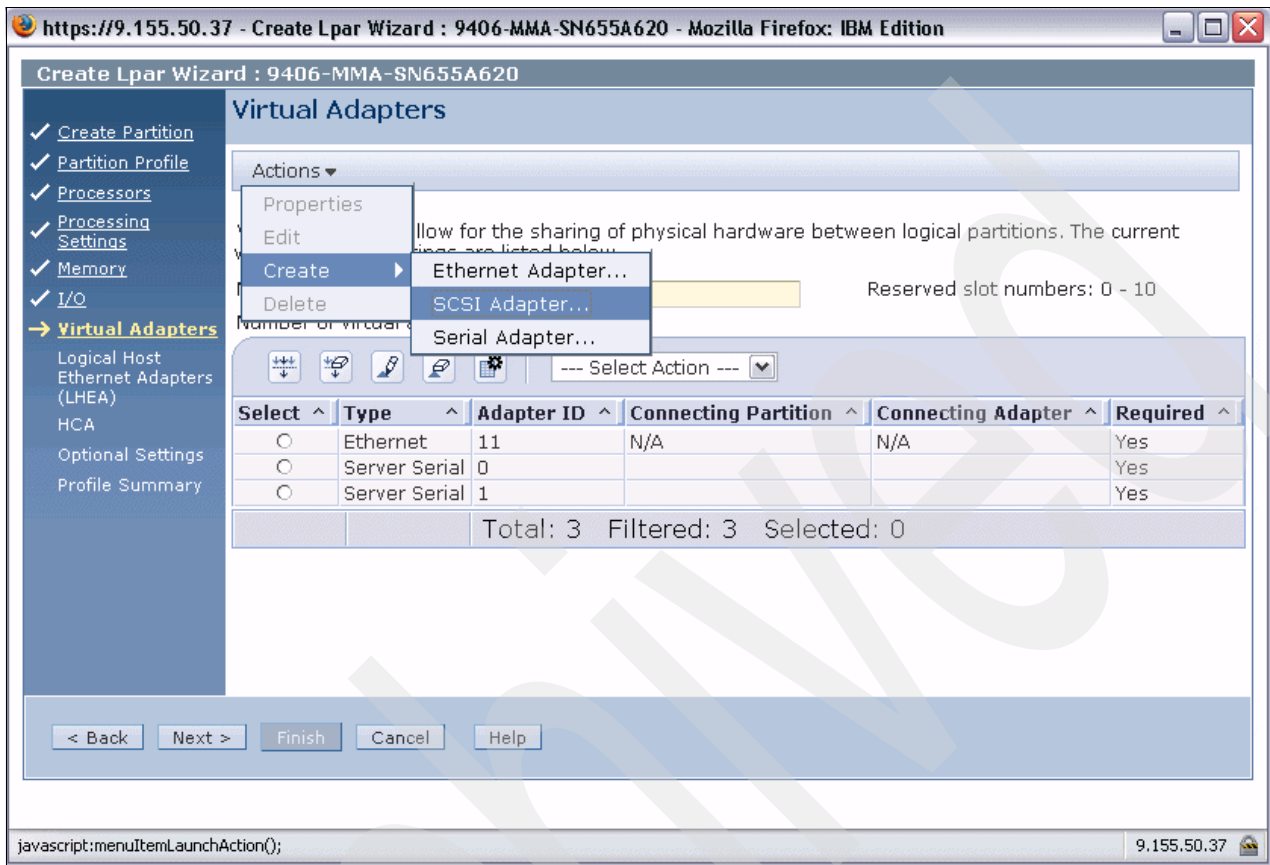

Figure 6-12 Create LPAR Virtual Adapters dialog
10. The Virtual Adapters dialog now shows the newly created Ethernet adapter and we select **Actions** → **Create** → **SCSI Adapter**, as shown in Figure 6-12, to create virtual SCSI server adapters on the VIOS partition that the IBM i client partition can connect to.